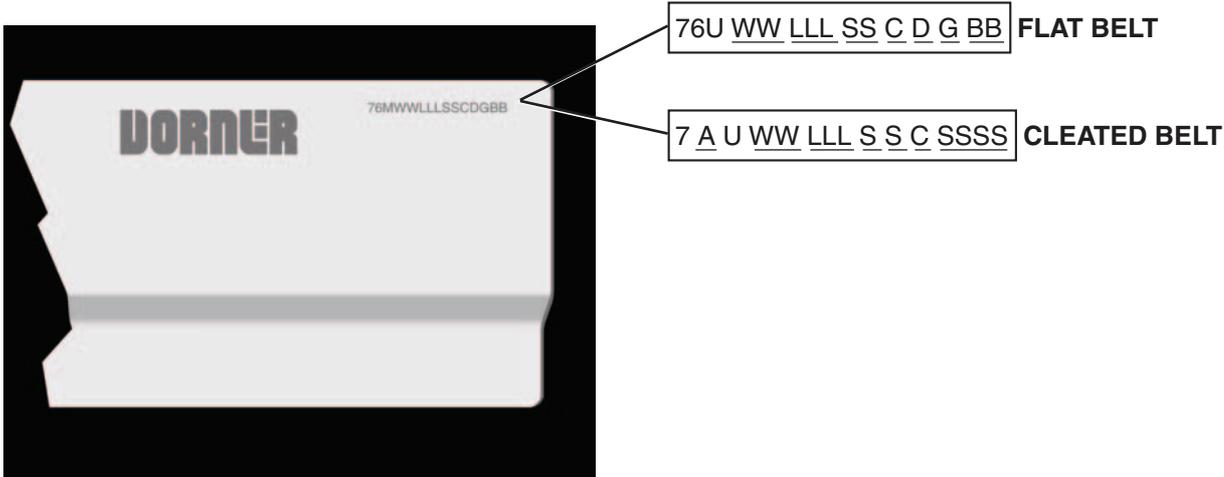

Figure 99
Refer to model number on the conveyor frame (Figure 99). From the model number determine the conveyor width (WW), length (LLL), drive/tail types (A) and belt type (BB). Use data to configure belt part number as indicated below. *Add "V" for v-guided belts.
Refer to model number on the conveyor frame (Figure 99). From the model number determine the conveyor width (WW), length (LLL), cleat type (C) and cleat spacing (SSSS). Use data to configure belt part number as indicated below. *Add "V" for v-guided belts.